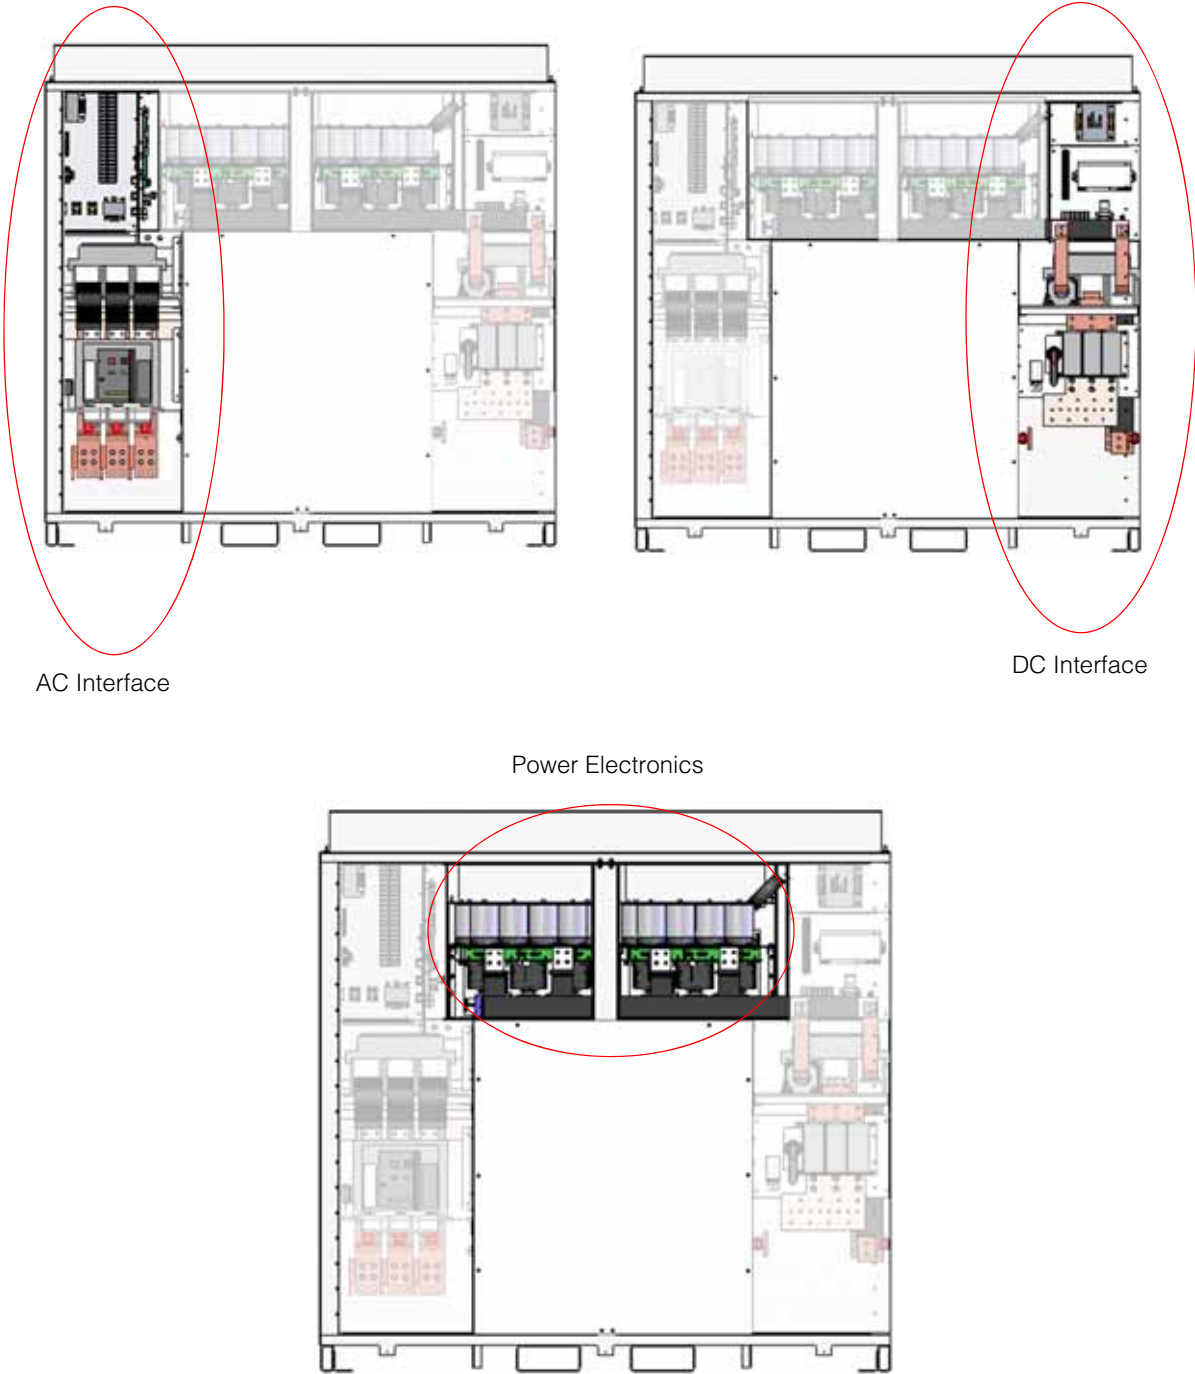

Figure 1-2 Main Enclosure Interfaces (Shown With Barriers Removed)
- Figure 1-2 Main Enclosure Interfaces (Shown With Barriers Removed)------ 1-4
The AC interface serves as the connection for the utility. This compartment (section) houses the AC terminals (TB1-A, -B, and -C), AC circuit breaker, AC contactor, control power transformer, solid-state relays, control fuses, and AC sensing circuitry. See Figure 1-2 on page 1-4 for the location of the AC interface compartment.
The DC interface serves as the connection interface between the PV array and the Xantrex GT500 MVX or Xantrex GT500 MVX PG (see Figure 1-2 on page 1-4 to locate the DC interface compartment). This section houses the DC disconnect switch and DC contactor. Additionally, the PV ground fault detection circuitry, DC surge arrester, solid-state relays, and 48 VDC power supply are housed in this section.